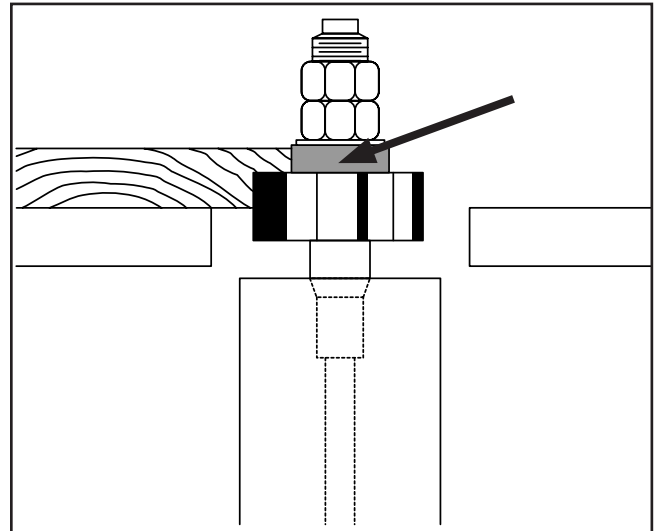

Figure 37. Rub collar installed above cutter.
2. **Above the cutter:** When the rub collar is used above the cutter as seen in **Figure 37**, the cut cannot be seen. This offers some advantage: the stock is not affected by slight variations in thickness and accidental lifting will not damage the workpiece. If lifting occurs, simply correct the mistake by repeating the operation.